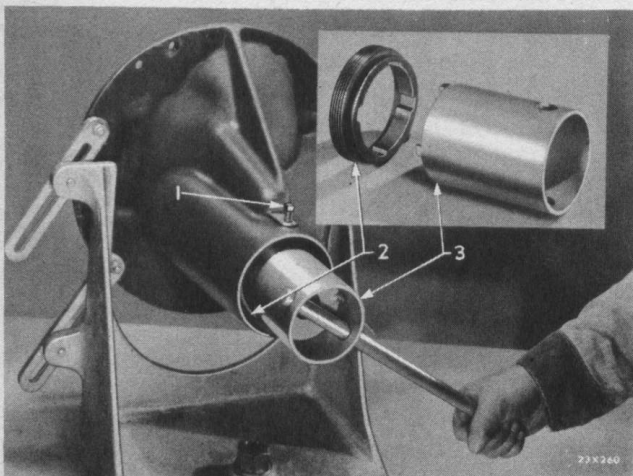

Fig. 43—Removing Pinion Bearing Retaining Nut
- (5) Unscrew and remove the front bearing retainer lock screw (1, Fig. 43) and the bearing retainer nut (2).
- (6) Pull the drive pinion out through the rear of the differential carrier. The spacing washer does not fit the pinion tightly and will drop into the carrier.
- (7) Remove the rear bearing cone from the pinion by means of a puller. The center and front bearing cones can be tapped off the pinion with a drift and hammer.
- (8) Drive the front bearing cup out of the front of the carrier with a drift and hammer.
- (9) Drive the rear bearing cup out of the rear of the carrier with a drift and hammer.